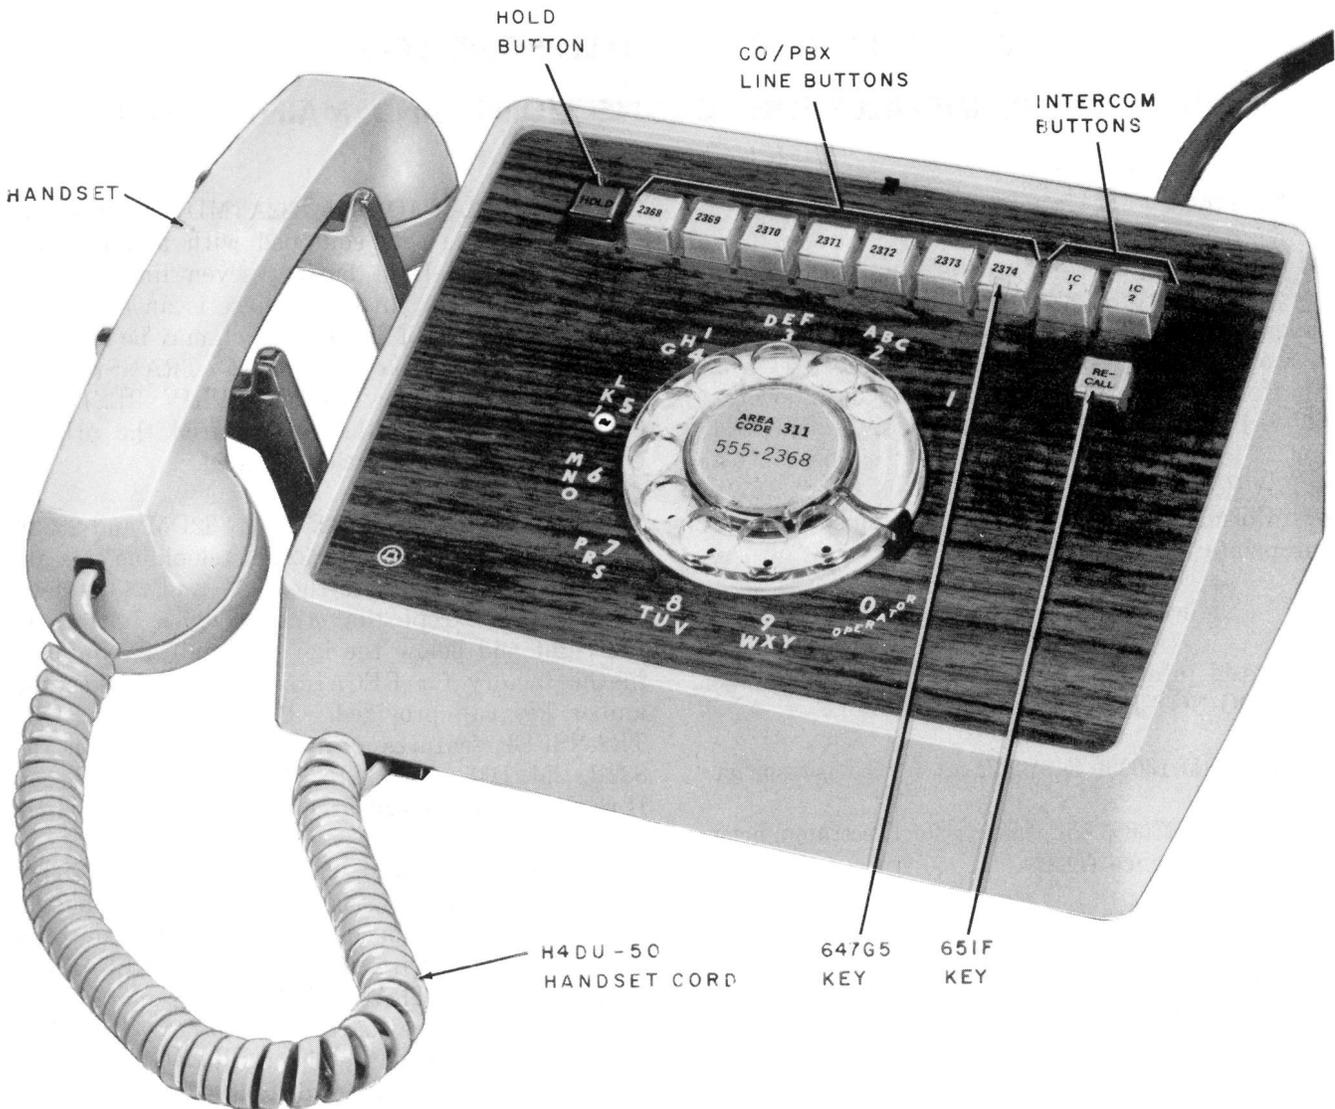
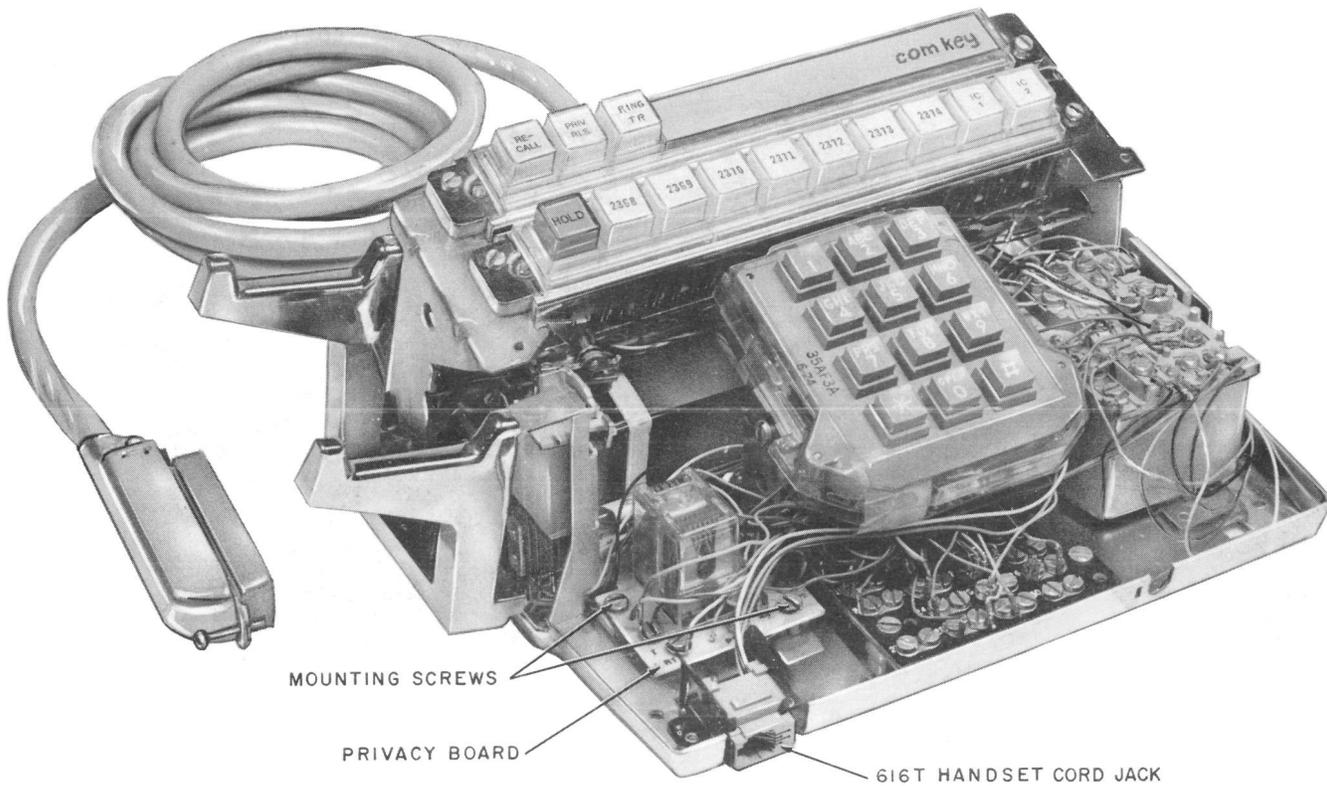

Fig. 1—832BM Telephone Set
Fig. 3—2832CM Telephone Set Base
**2.01** The 832BM (Fig. 1), 2832BM, 832CM, and 2832CM (Fig. 2) are modular type telephone sets and will replace the 832B, 2832B, 832C, and 2832C telephone sets, respectively, which are hereby rated MD. The 832DM, 2832DM, 832EM, and 2832EM are also modular sets and are electrically and functionally equivalent to the 832BM, 2832BM, 832CM, and 2832CM sets, respectively, except that they have been adapted for wall mounting. The modular sets will all be equipped with a G15A-50 handset and H4DU-50 handset cord which will plug into a 616T jack mounted on the left front of the telephone set base (Fig. 3). Current production models of these sets also are equipped with an improved line switch and an improved Automatic Button Restoral (ABR) feature. Some early production BM and CM sets were not so equipped.
- (1) Mount privacy circuit board on the two standoffs located at left front of the telephone set base (Fig. 3).